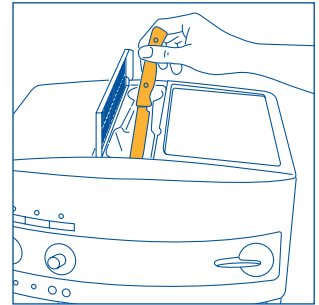

Fig. 20
**NOTE 5:** If you add more than one measure of pre-ground coffee and the funnel blocks, use a plastic knife to push the coffee down (Fig. 20), then remove and clean the infuser and the machine, as described in section 10.2 "Cleaning the infuser".